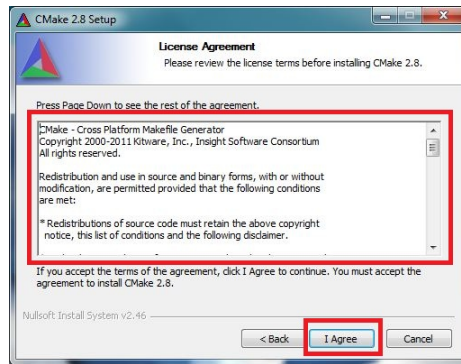

Figure 4-16. Cmake User License Agreement
- Review the end-user license agreement for Cmake and accept the terms to continue with the installation. The license agreement is highlighted in Figure 4-16.